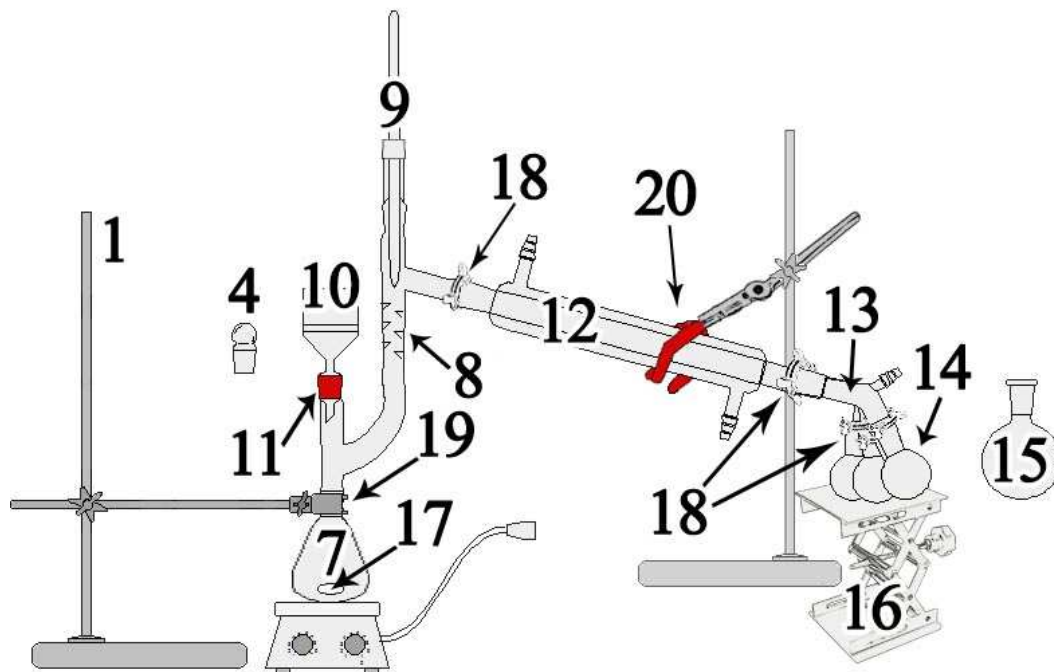

Fig. 2. Set up needed to implement Steps 5-10 of the synthesis. Refer to page 4-5 for the numbers
Step 6. Assemble the distillation apparatus as shown on Fig. 2 supplying all the joints with the teflon sleeves and clips. First, attach two 10 mL and one 50 mL receiver flasks to the distilling receiver cow. Then connect the vacuum hose to the cow and complete assembling. Fix the apparatus over the magnetic stirrer to adjust it on height. Use the adjustable lab jack lift support.